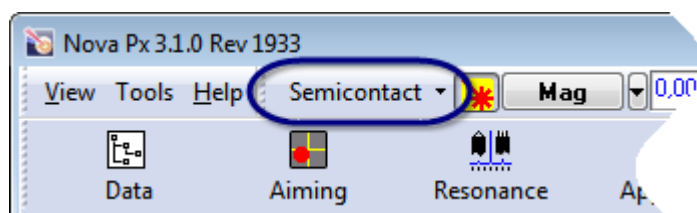

Fig. 11-15. Selecting the controller configuration
1. Check that **Semicontact** is chosen in the controller configuration list (Fig. 11-15).
1. Check that **Contact** is chosen in the controller configuration list (Fig. 11-15).